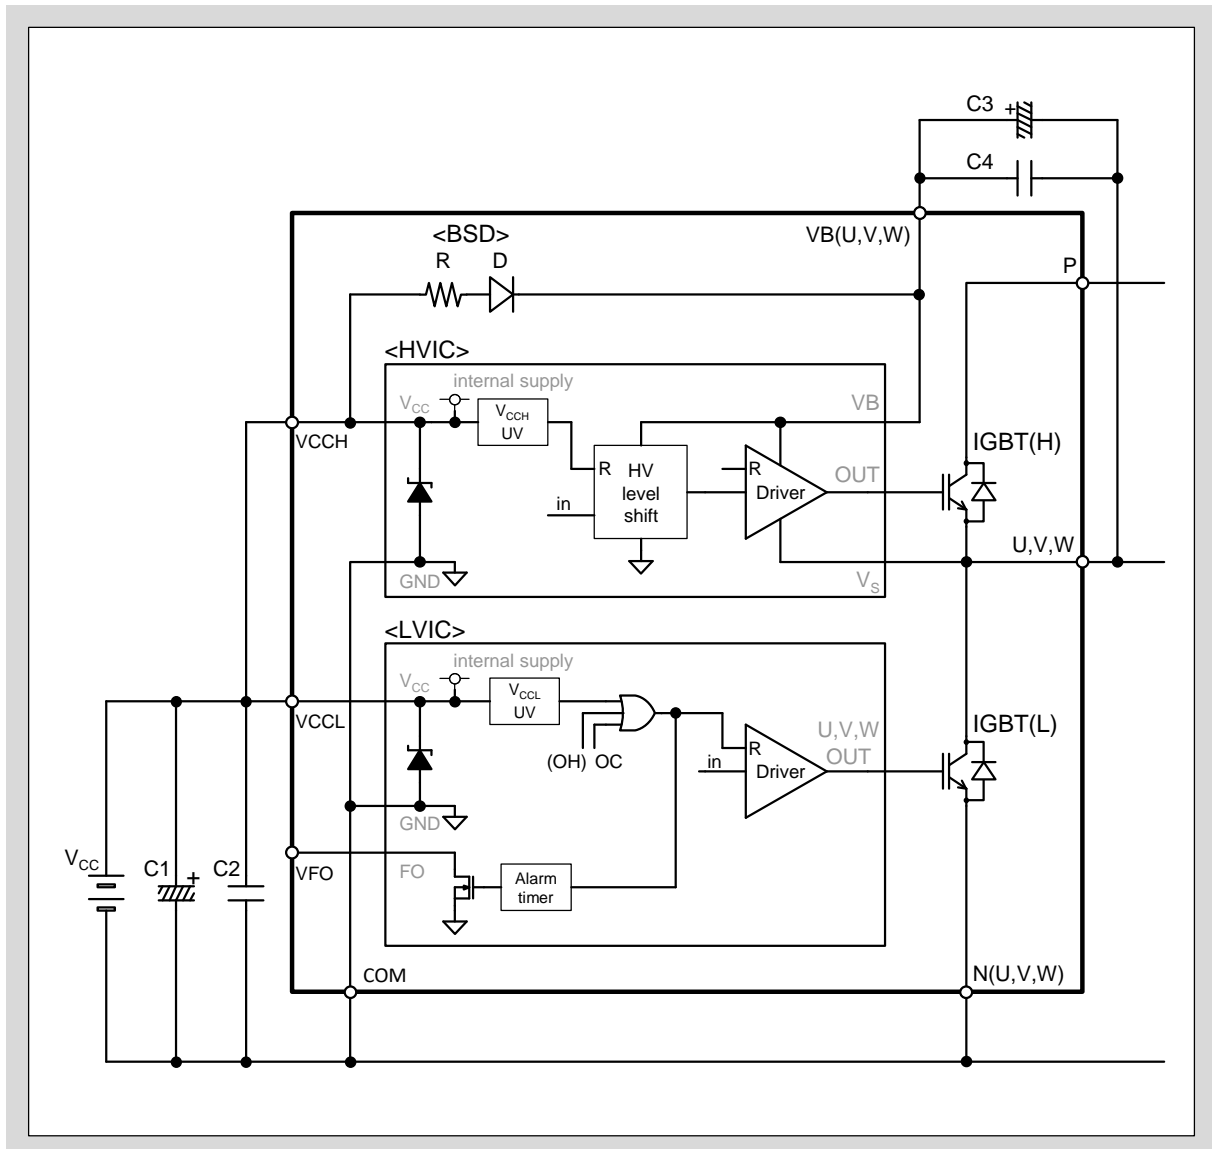
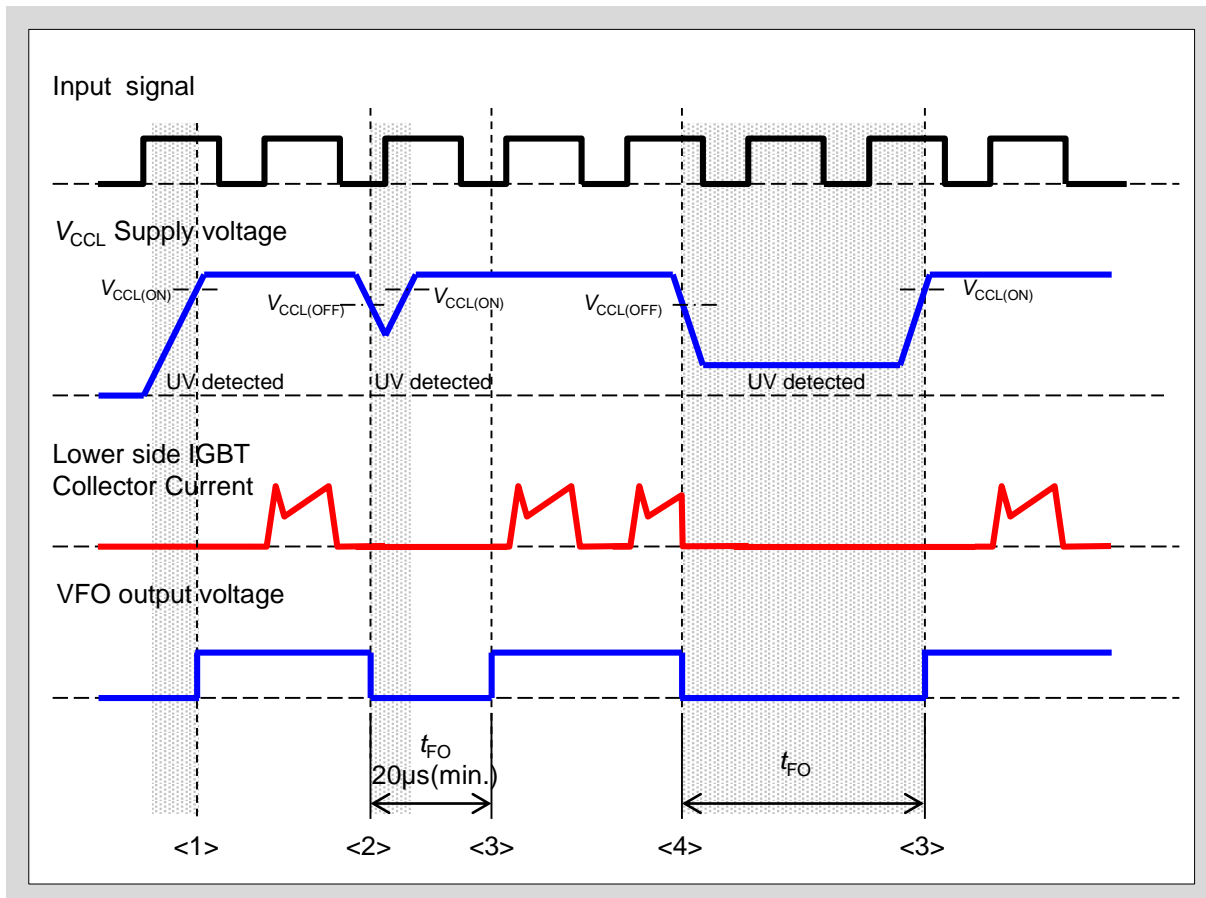
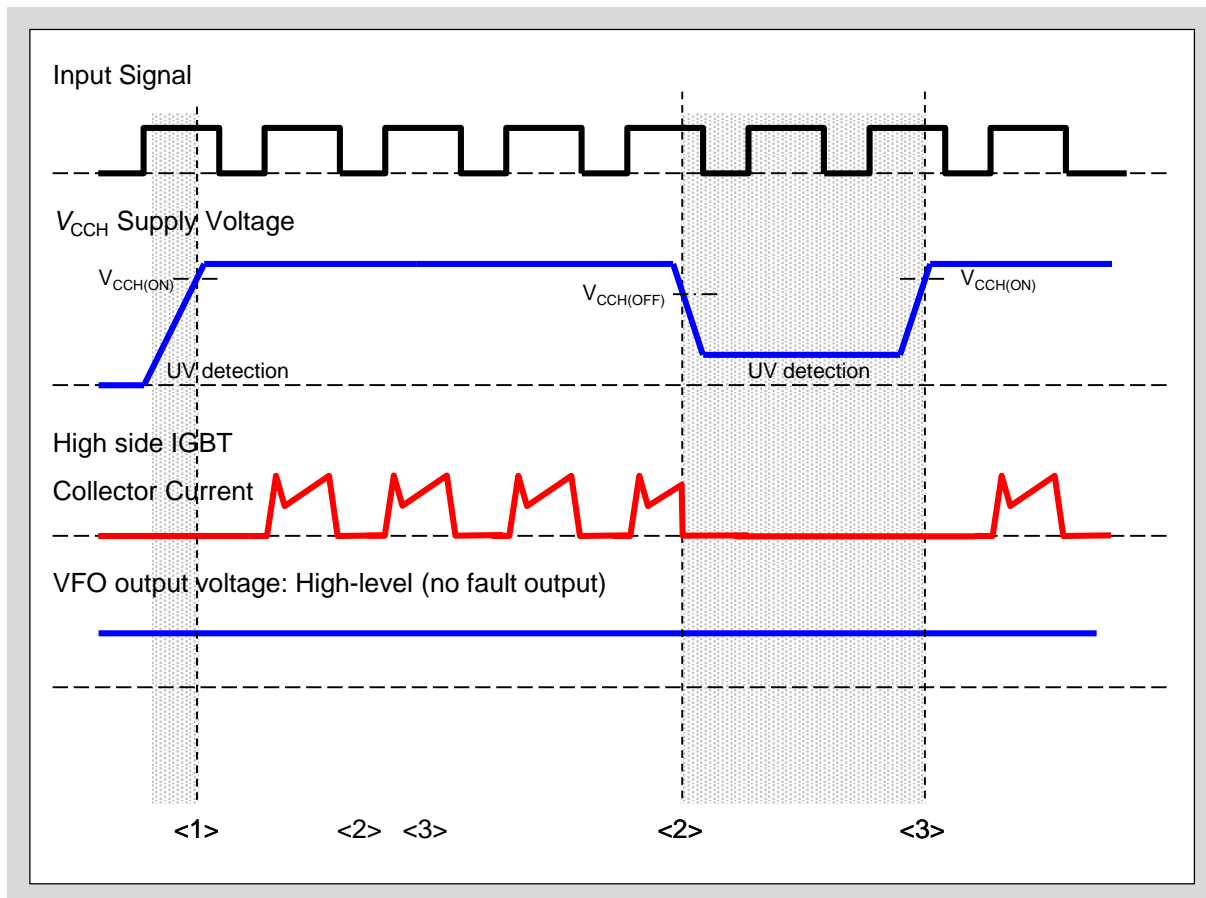

Fig.3-1 UV protection circuit of VCCH, VCCL
Fig.3-2 Operation sequence of V_{CCL} Under Voltage protection (lower side arm)
Fig.3-3 Operation sequence of V_{CCH} Under Voltage protection (high side)
- Fig.3-1 shows the UV protection circuit of VCCH and VCCL. Fig.3-2 and Fig.3-3 shows the operation sequence of UV operation of V_{CCH} and V_{CCL} .
- As shown in Fig.3-1, a diode is electrically connected between VCCH-COM and VCCL-COM terminals. The diode is connected to protect the Small IPM from the input surge voltage. Do not use the diode for voltage clamp purpose otherwise the product might be damaged.